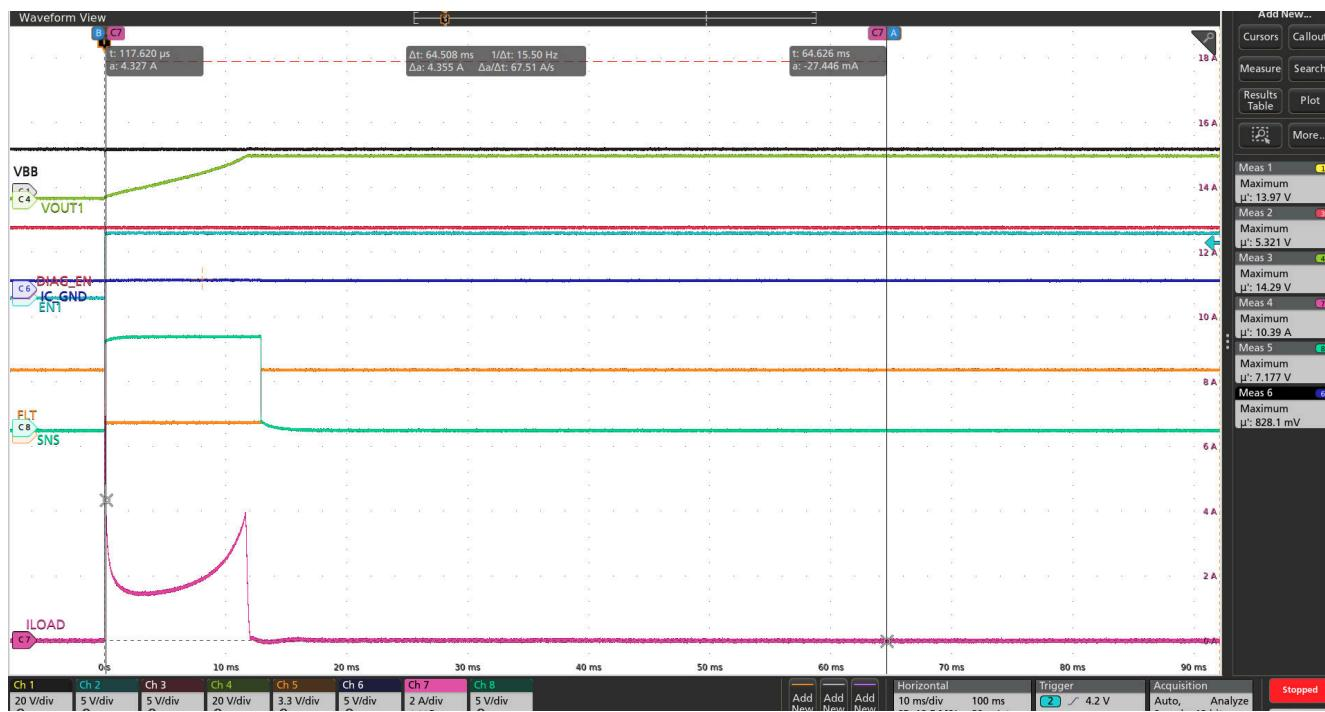

Figure 8-32. 2mF Capacitive Load Charging with Channel 1 of TPS2HC08-Q1 Device at 13.5V VBB, ILIM Pin OPEN and 125°C Ambient Temperature (no load on channel 2)
- **Expanded Capacitive Load Range:** The thermal-regulated current limiting significantly expands the range of capacitive loads that can be safely charged without triggering thermal shutdown, as shown in Figure 8-32. By dynamically adjusting current based on thermal conditions, the device can handle much larger capacitances than traditional high-side switches.